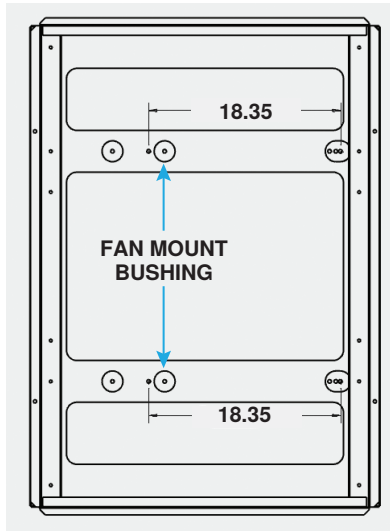

Figure 76. Fan Mounting Holes in Fan Sled
- a. Drill two 11/32-inch diameter mounting holes—through fan sled and center braces—18.35 inches (approximately 18-11/32 inches) from center of front mounting holes as shown in Figure 76.